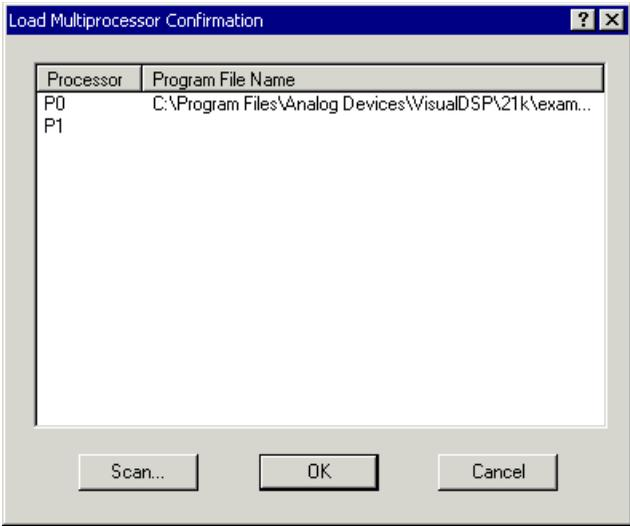

Figure 3-45. Load Multiprocessor Confirmation Dialog Box: Specifying Load dotprodc.dxe into Processor P0
4. Double-click dotprodc.dxe to open the **Load Multiprocessor Confirmation** dialog box, shown in Figure 3-45.